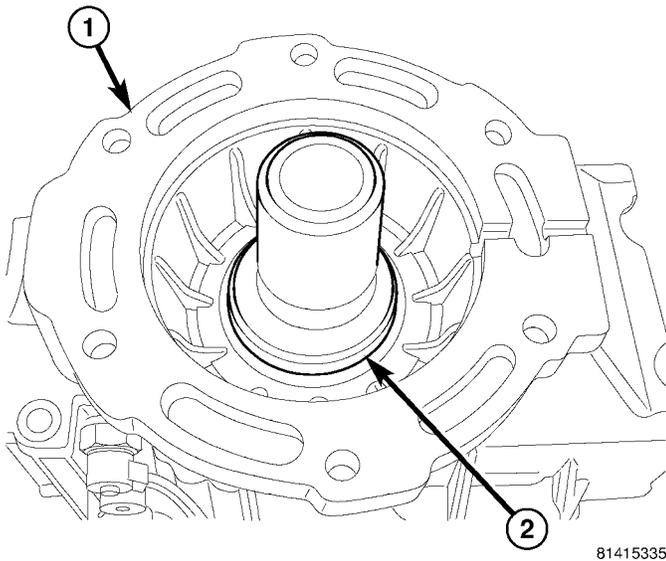

Fig. 91 OUTPUT SHAFT SEAL 4X4
(10) Install 4x4 output shaft seal into rear housing (1) with Installer 9638 (2) (Fig. 91). Install 4x2 output shaft seal into rear housing with Installer 9635 and Tube 6448A.